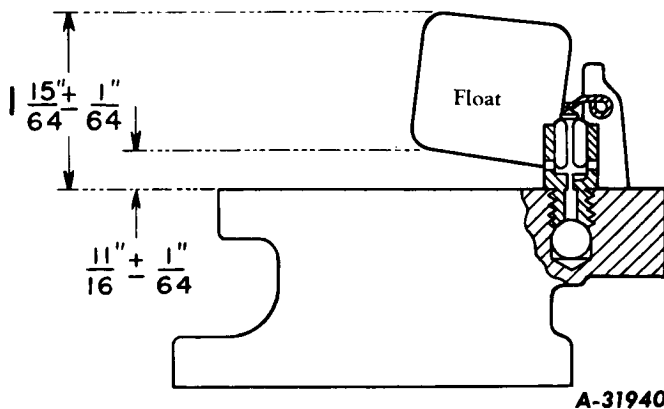

Fig. 22 - Float Setting for Carter Model UT Carburetor.
1. Install the idle adjusting needle valve (37) and spring (36).
2. Insert the dust seal (39) into the shaft bore with the lipped side out. Install washer (40) over the dust seal.
3. Install the throttle shaft (42). Assemble the throttle valve plate (3) on the shaft with screws (2). Before tightening the screws, center the valve plate by tightly closing the throttle. Be sure that the throttle stop screw is backed out to allow the valve plate to seat firmly in the bore. Tighten screws (2) and check the throttle for free movement. Clinch over the ends of the screws to prevent them from loosening.
4. Install the needle valve and seat (33) and gasket (34).
5. Hold the float (30) in position and insert the pin (31) in place.
6. Invert the throttle body. Set the float level to the dimensions shown in Fig. 22.
7. Install the main metering jet (26) and gasket (25) on gasoline carburetors, or the main jet adjustment needle valve (21) and gasket (20) on distillate or kerosene carburetors.
8. Install the low speed jet (28) and the nozzle bleed screw plug (27).
9. Insert the dust seal (10) into the choke shaft bore with the lipped side out. Install washer (9) over the dust seal.
10. Install the spring (8) and lock pin (7).
11. Install the choke shaft (29) and hold it in the closed position. Locate the choke valve plate (14) in the bore and install the screws (13). Be sure that the choke valve plate is properly centered and the screws tightened securely. Clinch over the ends of the screws to prevent them from loosening.
12. Install the nozzle (11) and gasket (12).
13. Install the venturi (6).